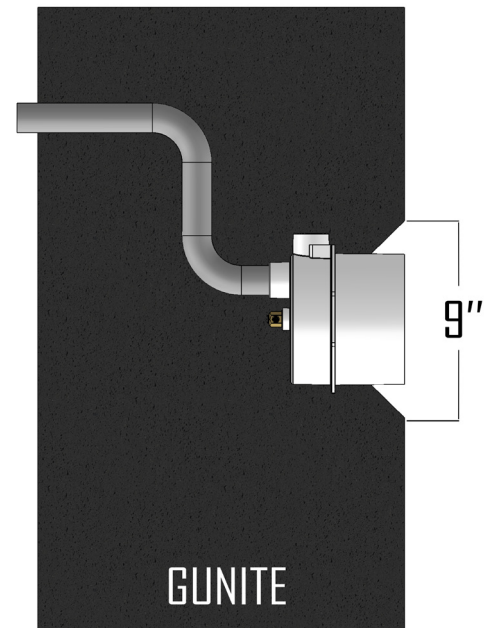

Figure 1
5. The outside bonding connection must be inspected before the concrete or gunite is applied. Follow applicable codes. It's important to maintain a 9" diameter undercut around the outside circumference of the niche and to avoid having concrete or gunite harden on it's outer edge (See Figure 1).